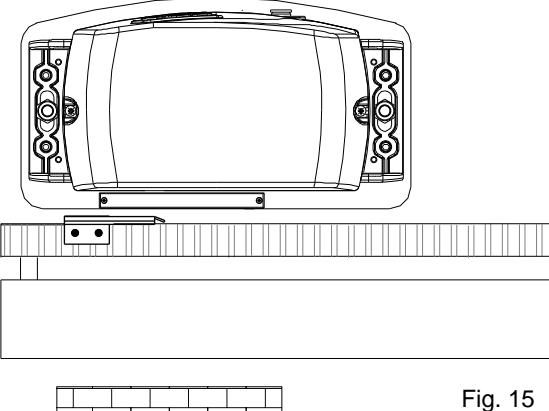
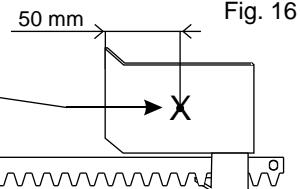
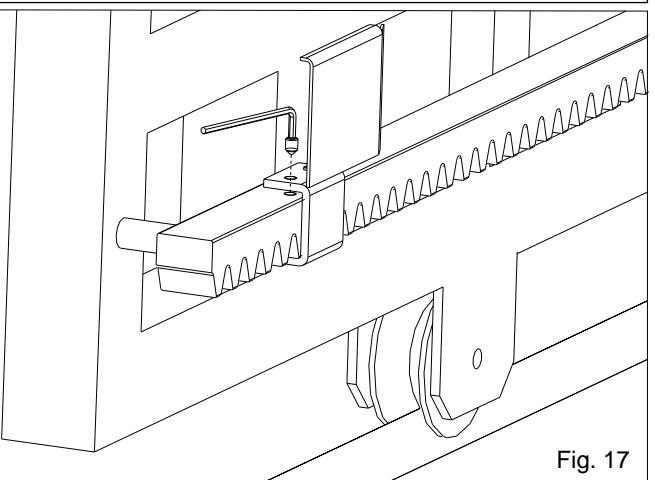

Fig. 15
Fig. 16
Fig. 17
- Place the small plate on the gear rack so that the limit switch is (small lever in case of mechanical limit switch (Fig. 14); small pointers placed on the upper part in case of inductive limit switch (Fig. 15)) in correspondence of pointX which is placed 50 mm from the folded side of the small plate (fig. 16) and fix it with the delivered screws (Fig. 17).
- Place the small plate on the gear rack so that the limit switch is in correspondence of pointX which is placed 50 mm from the folded side of the small plate (fig. 16) and fix it with the delivered screws (Fig. 17).